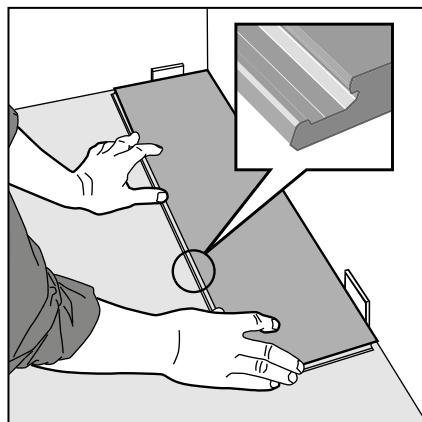

Figure 46 First plank, first row
- > The plank are laid without adhesive. Start to lay the floor in the left-hand corner of the room with the lower male profile facing towards you (Fig 46).